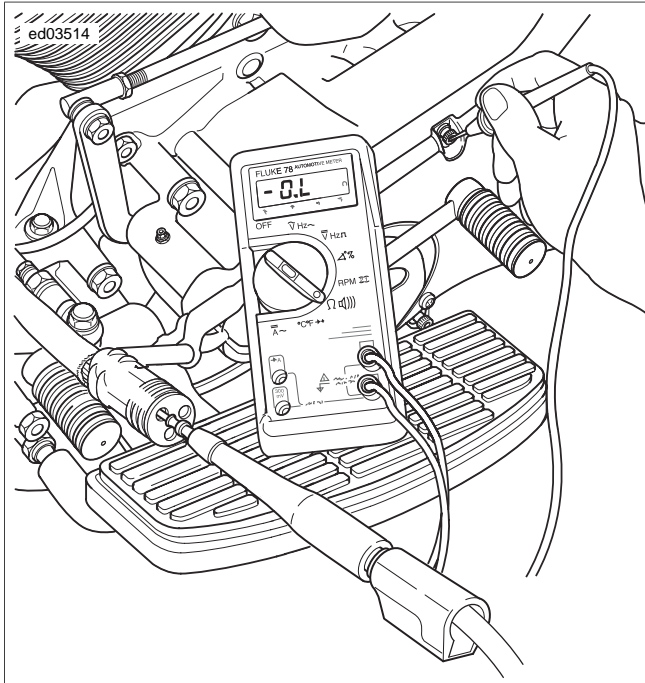

Figure 3-17. Test for Grounded Stator (Typical)
2. See Figure 3-17. Using HARNESS CONNECTOR TEST KIT (Part No. HD-41404), connect an ohmmeter.